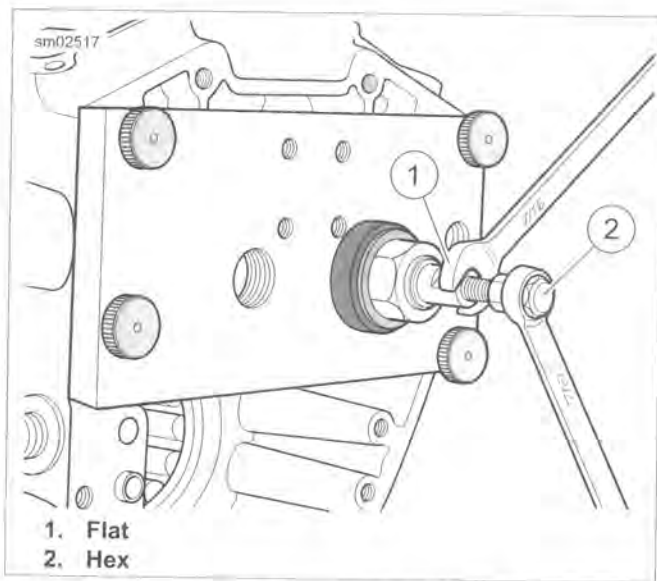

Figure 3-91. Expanding Collet by Turning Hex Clockwise
10. See Figure 3-91. Hold the flat on the collet and expand collet by turning hex at end of shaft clockwise.